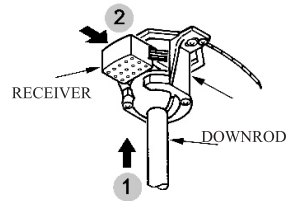

FIG.4
2. Carefully lift the fan and seat the down rod ball assembly on the hanger bracket. Be sure the groove in the ball is lined up with tab on the hanger bracket. Do not pinch wires between the ball and down rod assembly and hanger bracket(see Fig 4)